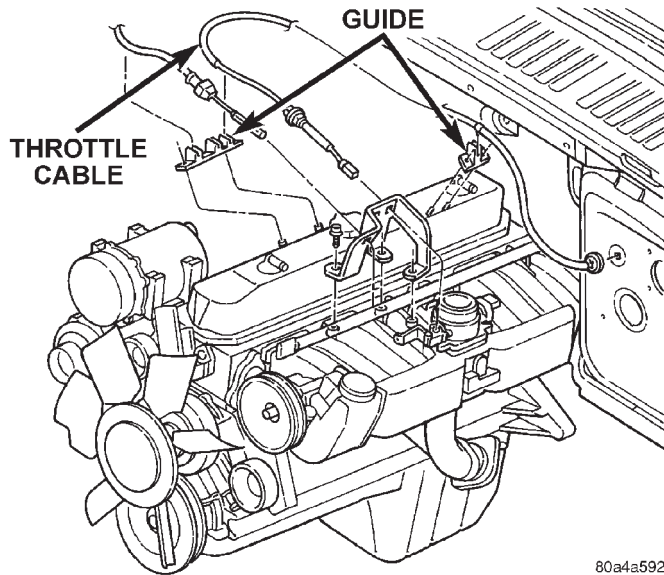

Fig. 39 Throttle Cable Routing
- (4) Remove cable from clip guides on engine cylinder head (valve) cover (Fig. 39).